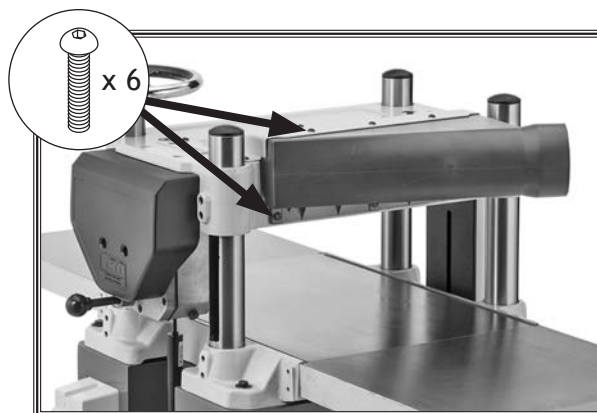

Figure 11. Dust port installed.
8. Attach dust port to planer with (6) M6-1 x 12 button head cap screws (see **Figure 11**).